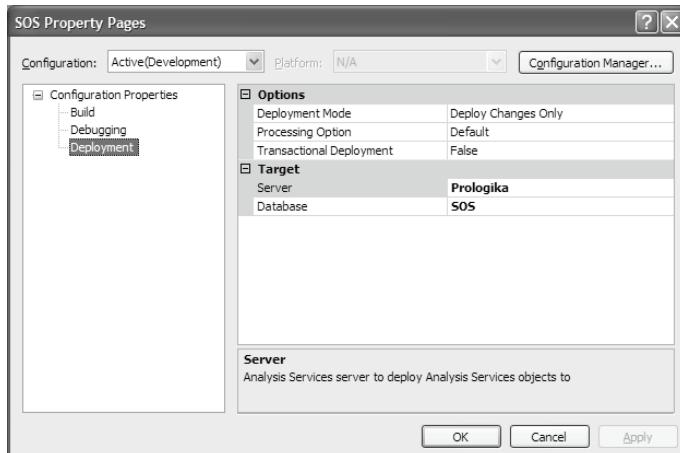

Figure 2.10 Use project configurations to define different deployment settings.
2. In the project Property Pages (Figure 2.10), choose the *Configuration Manager* menu item.